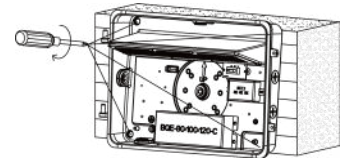

Fig. 2.4
4. Affix the mounting plate with screws (Fig. 2.4).